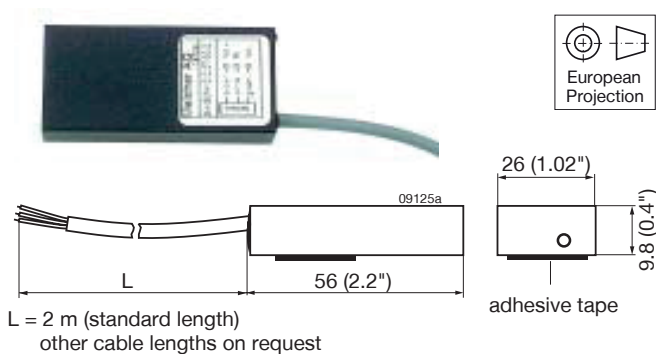

Fig. 50
- Different battery sensors S-KSMH... for using the converter as a battery charger. Different cell characteristics can be selected; see fig. 50, table 27, and *Battery Charging/ Temperature Sensors*.